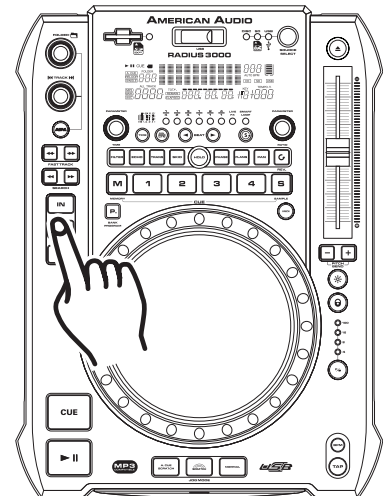

Figure 19
- 1) Press the *OUT BUTTON (15)* to return to normal play from the loops cue point. (Figure 19). This will disengage the SEAMLESS LOOP mode and allows you to edit the loops ending point.
- 2) Press the *OUT BUTTON (15)* again when you reach your new ending point (Figure 19).
- **FOR A SHORTER LOOP:** Press the *OUT BUTTON (15)* at sooner point in the track (Figure 19).
- **FOR LONGER LOOP:** Press the *OUT BUTTON (15)* at later point in the track (Figure 19).